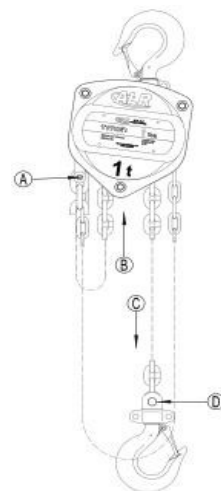

Figure 13
1. Referring to Figure 13:
2. Remove lock nut and bolt (D) from lower hook.
3. Insert the last chain link (C) into lower hook slot.